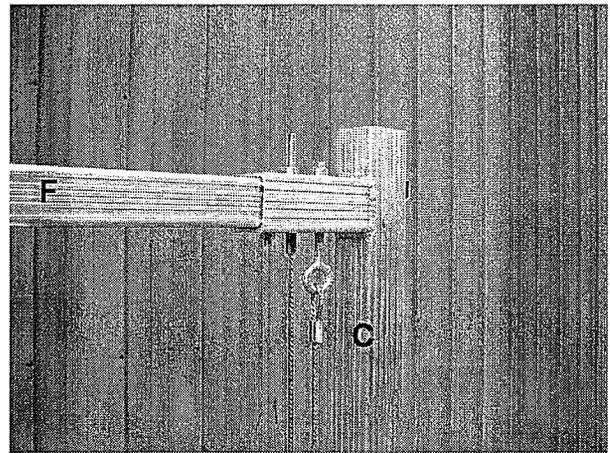

FIG. 26
3. Place the two threaded cable ends through the mounting holes on the winch side frame (See FIG. 26).